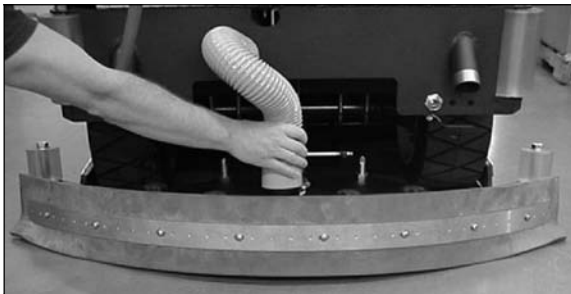

FIGURE 16.
*NOTE CENTER SPACED OFF THE FLOOR. (SEE FIGURE 16.)